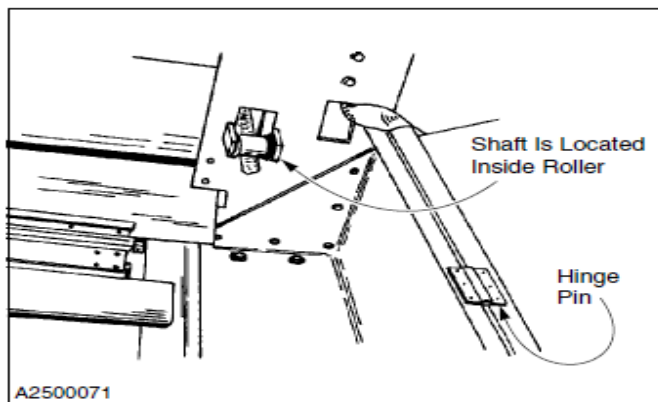

Figure 38
4. **Upper Rollers:** The upper end of each tension strap travels on an upper roller. These rollers, located near the ends of the head assembly, each spin on a shaft that must be lubricated with a good quality grade of heavy lubricating oil. (See Figure 38)
5. **Hinge Pins:** All side cover hinge pins must be lubricated with a good quality penetrating oil to prevent the hinges from rusting. (See Figure 38)